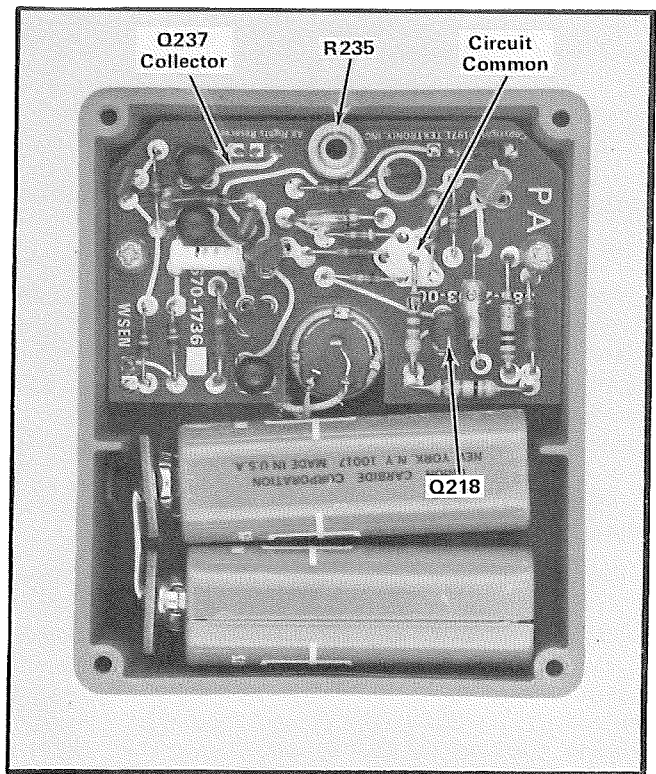

Fig. 4-1. Location of Q218 and circuit calibration test points and adjustments.
3. Connect the DC Milliammeter between the collector of Q237 and circuit common. The plus meter lead should be connected to the collector of Q237, and the minus lead to circuit common. See Fig. 4-1.
9. ADJUST—Intensity Cal adjustment R235 (see Fig. 4-1) for the exact current reading indicated on the tag on the diffuser.
11. Connect the tip of the probe from the test oscilloscope to the collector of Q237. Connect the probe ground lead to circuit common in the control box. See Fig. 4-1.